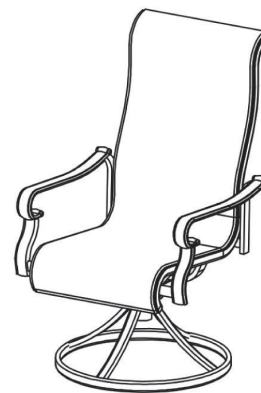

Figure 3
Step 4. Check the alignment and adjust if necessary. Once the alignment is correct, tighten all bolts with open wrench (I). Cover all bolts with bolt caps(H).
Step 5. Verify all bolts are securely tightened before use and turn your table right side up. Place the glass (D) onto the table. Your table is now ready to use.(Figure 3).